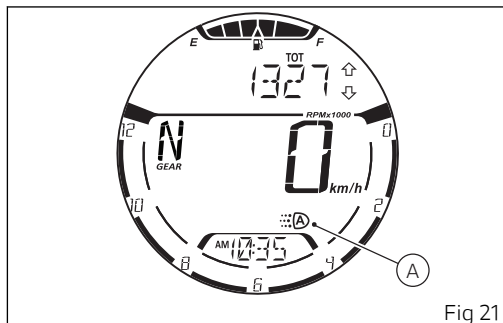

Fig 21
It is possible to switch off the DRL lights by setting them to “MANUAL” with button (5) on the left-hand switch. Press button (5) again, the DRL lights will turn on again and set to “AUTO”. When the DRL lights are set to “AUTO”, the display shows the symbol (A, Fig 21)
If the DRL is in this mode, when starting the engine it automatically switches off and the low beam is activated if the instrument panel detects poor light conditions (NIGHT). If the instrument panel detects good light conditions (DAY), the DRL remains on and the low beam off: in this mode, the instrument panel automatically switches from the DRL light to the low beam and vice versa, according to the detected ambient light conditions. The symbol (A, Fig 21) will be displayed.